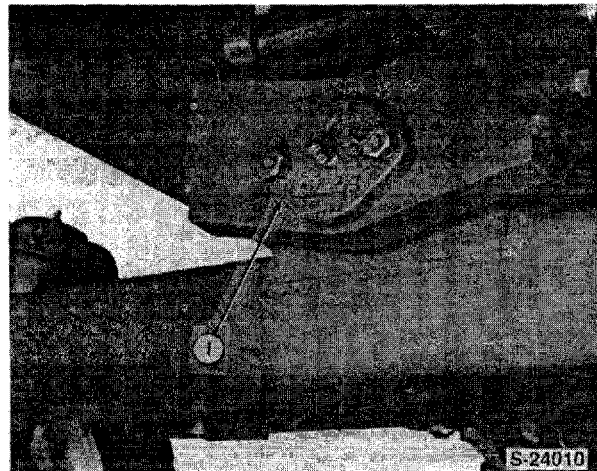

Figure 2
3. Remove the axle pivot front bearing casing (1), Figure 2.